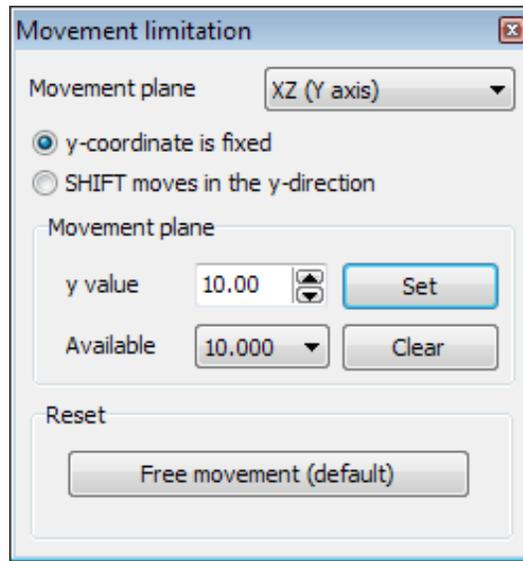

Figure 20: **Movement limitation** window for Back view
-  Click the **Back view** button in the general toolbar. The model view will be re-oriented showing the back side of the model. The **Movement limitation** window pops (Figure 20: Movement limitation window for Back view (on page 47)). Note that the *y*-coordinate is fixed to 10.